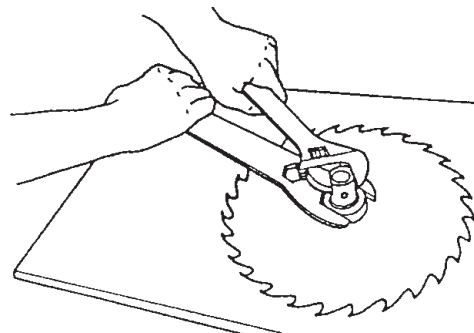
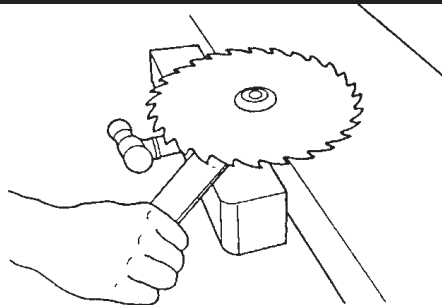

Figure C-25
Figure C-26
- d. Hold the arbor with an adjustable wrench and tighten the arbor nut with the arbor wrench, as demonstrated in Figure C-25. Another way to tighten the arbor nut is to clamp the arbor in a bench vise, as illustrated in Figure C-26, and tighten the nut with the arbor wrench.